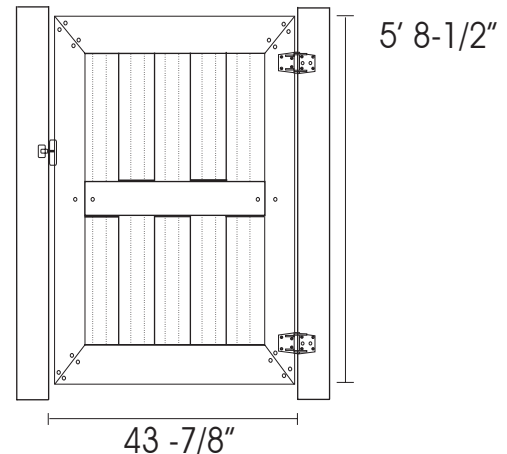

Figure 1
3. Place Middle Stiffener 4" into the middle of the Middle Rail with gray color facing down. (See Figure 1)